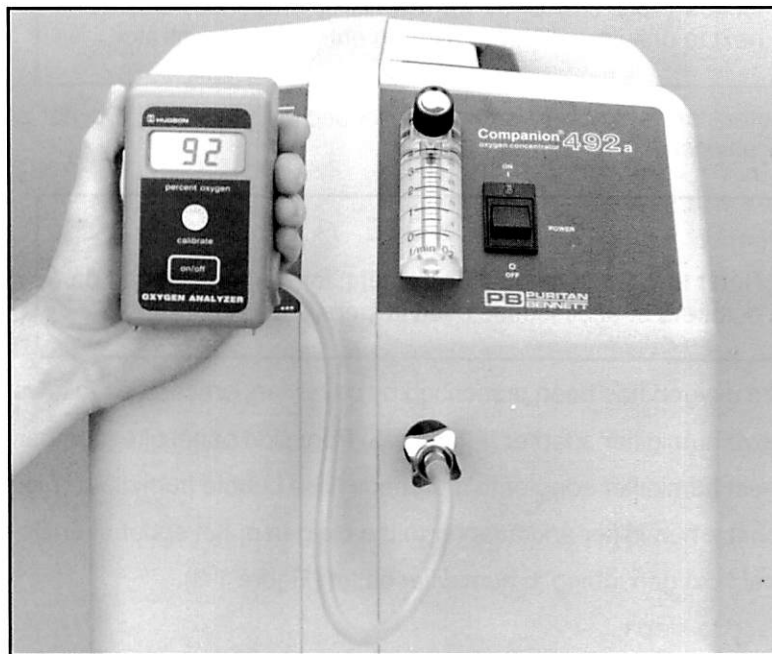

Figure 1-4: Oxygen Concentration Testing
- h. Connect calibrated oxygen analyzer to concentrator's oxygen outlet as shown in Figure 1-4. Follow Oxygen Analyzer manufacturers recommendations for proper connection to concentrator.